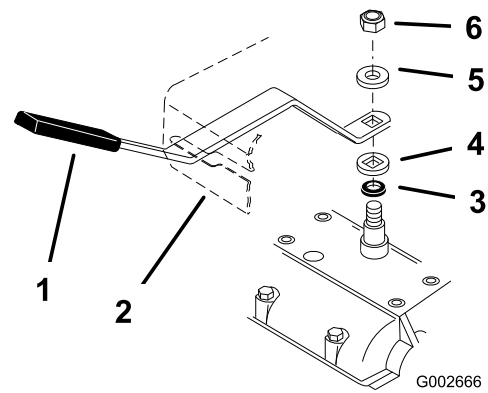

Figure 7
- Shift lever to neutral and check alignment of lever in slot of shift lever plate. The clearance on the sides of shift lever should be equal (Figure 7).
- Shift lever to second gear and check alignment of lever in slot of shift lever plate. The clearance between top and bottom of the shift lever should be equal (Figure 7).
- If clearance is not correct, remove lever and bend it slightly to adjust (Figure 7).